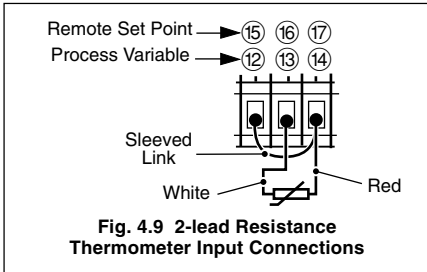

Fig. 4.9 2-lead Resistance Thermometer Input Connections
4.6.3 2-lead Resistance Thermometer (RTD) Inputs – Fig. 4.9